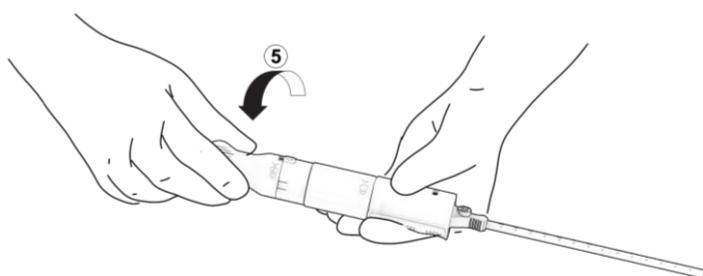

Figure 16. Release implant.
- Place the free hand on the Release cam, marked '5' and partially rotate this grip section 90° in the direction indicated as far as the first alignment marks. Figure 16. The implant is now in the fully deployed configuration, but the implant is still attached to the device handle.